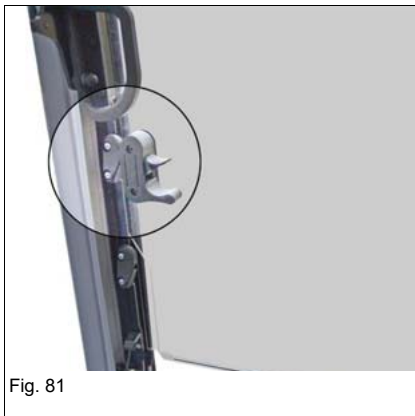

Fig. 81
- ▶ The lower front window must be fully open when the entire front window is opened or closed (*Fig. 81*).